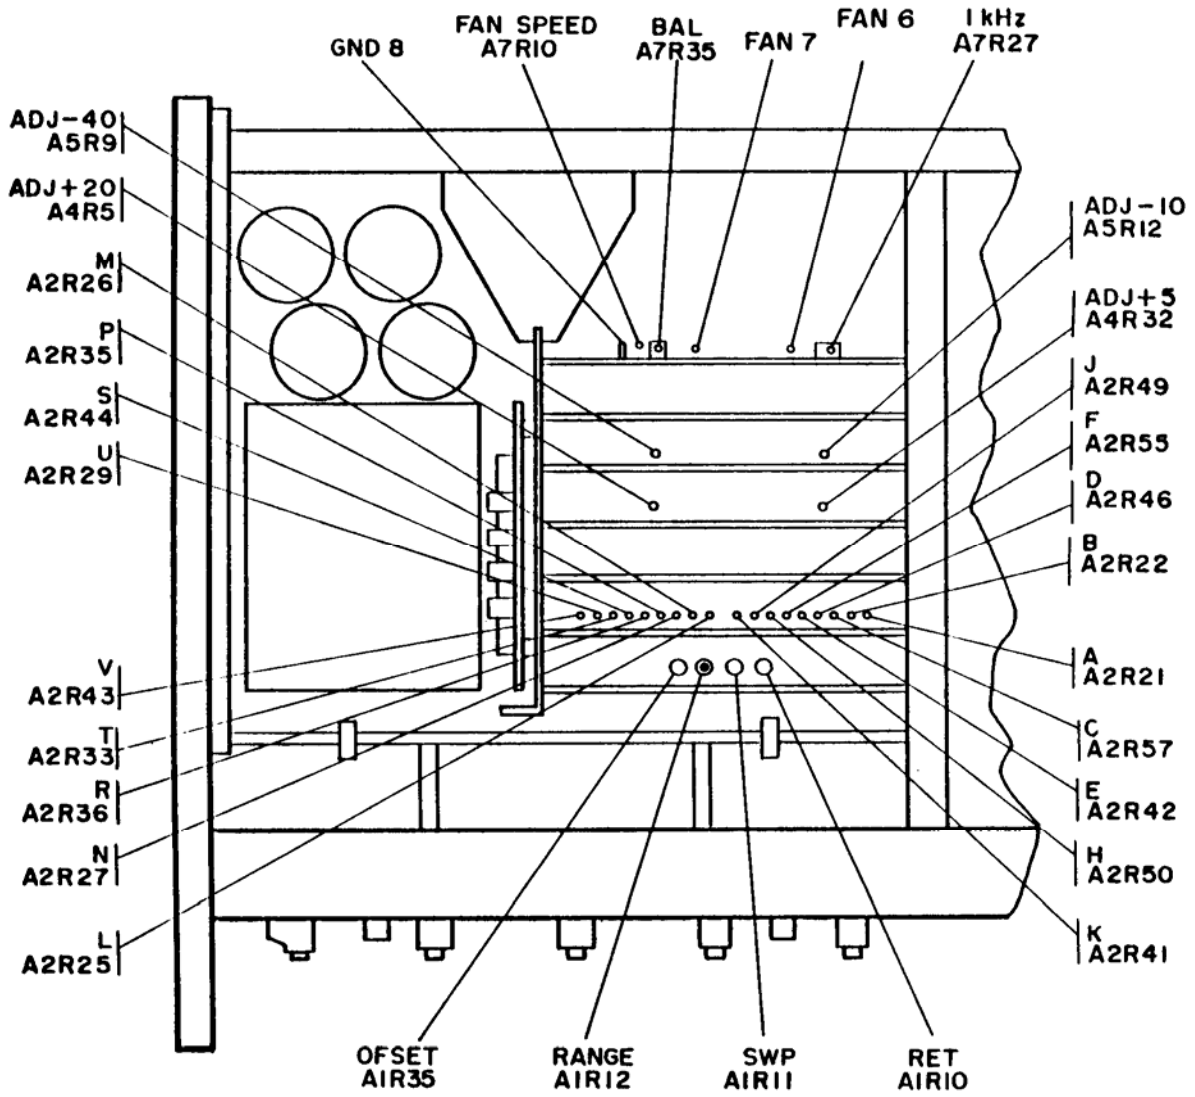
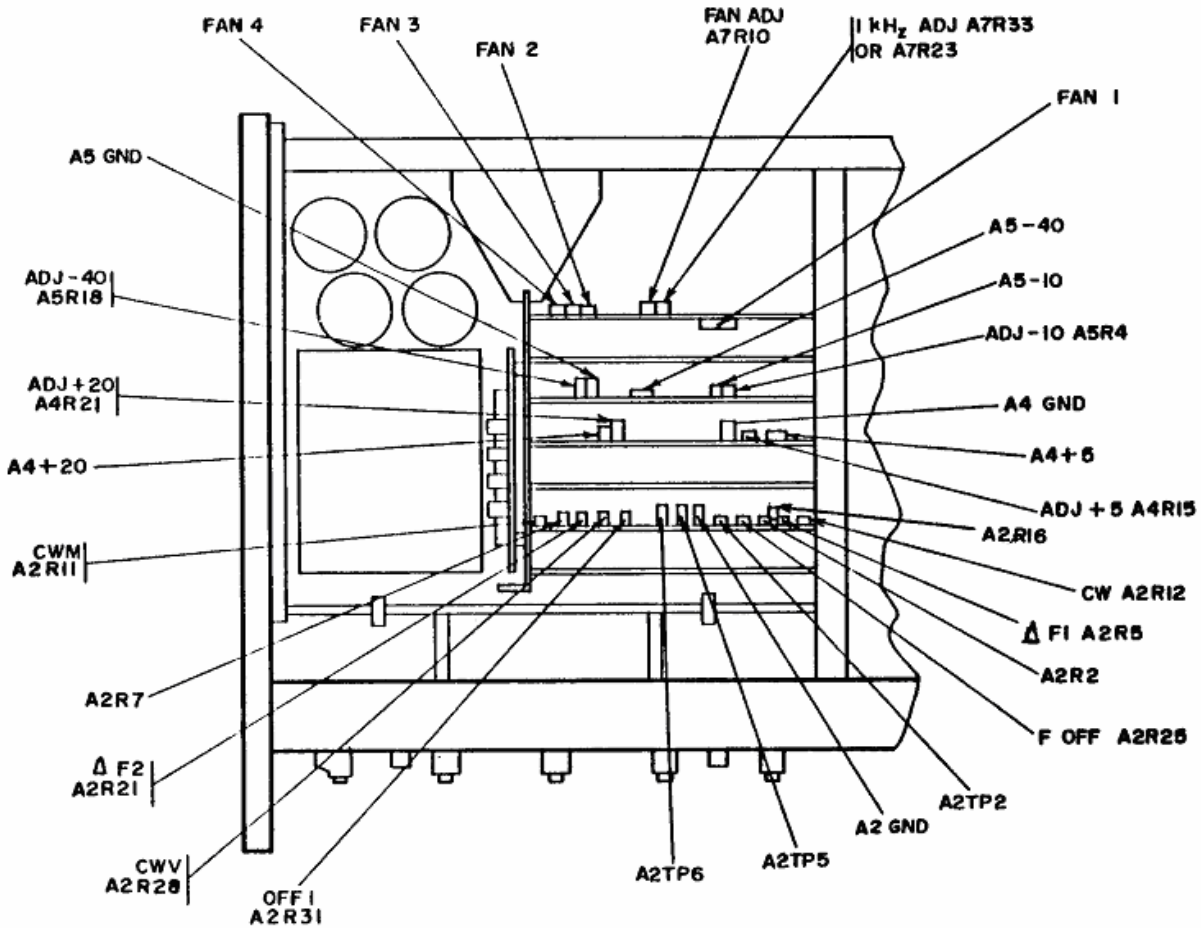
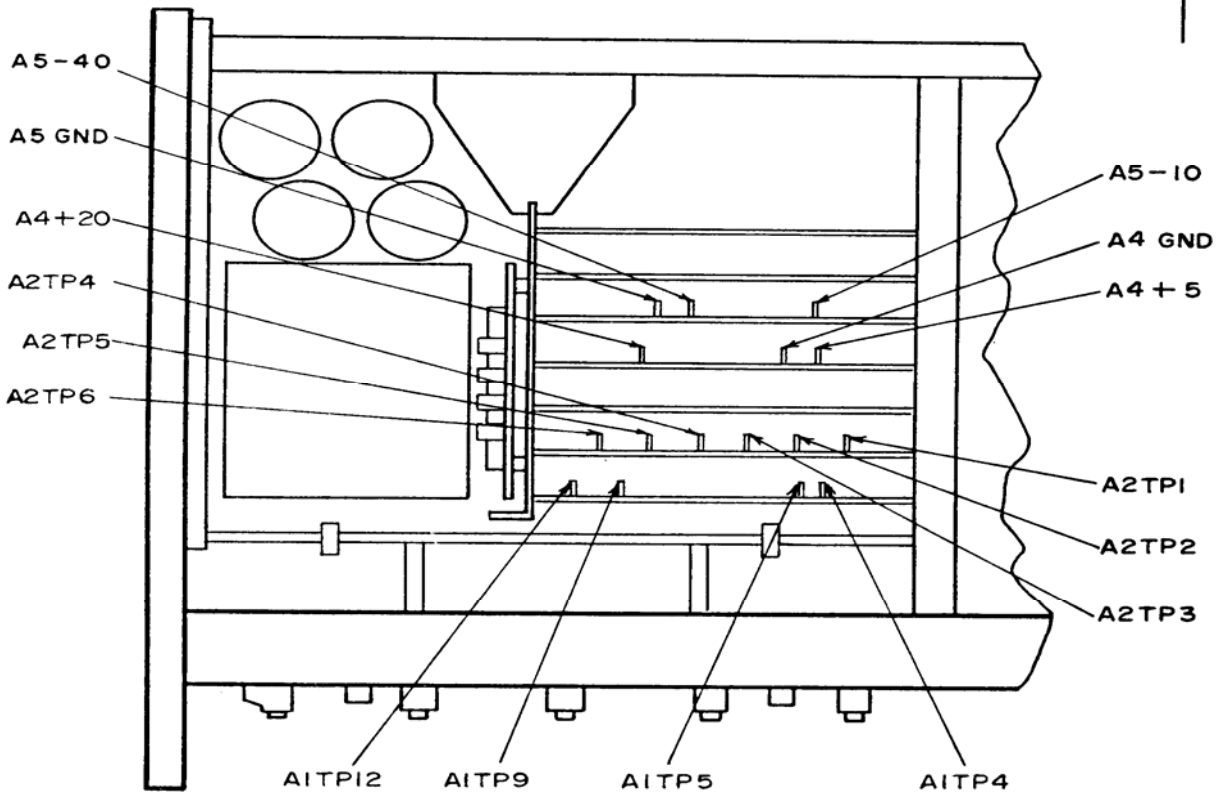

Figure 1. Model 8620C - partial top view.
Figure 2. Model 8620A - partial top view.
Figure 3. Model 8620C - partial top view.
- (3) Set **1 kHz SW WV/OFF (AM-MOD)** switch (rear panel) to **1 kHz SQ WV (1 kHz)**.
- (4) Press **CW** pushbutton and set **RF** switch to **ON**.
- (5) Adjust **POWER LEVEL** control cw to drive microwave frequency counter. If microwave frequency counter does not indicate between 0.95 and 1.05 kHz, perform **b** below.
b. Adjustments. Adjust 1 kHz A7R27 (fig. 1) (A7R23 or A7R33, fig. 2) for 1.00 kHz indication on microwave frequency counter (R).
- (1) Select calibration scale with **BAND** selector.
- (2) Connect multimeter between A2TP3 and A4 GND (fig. 3).
- (1) Adjust A A2R21 (fig. 1) for 0.000 V dc on multimeter (R).
- (2) Adjust B A2R22 (fig. 1) for 10.000 V dc on multimeter (R).
(1) Set **STOP MARKER** (red pointer) to the **0-V** mark on calibration scale.
(2) Connect multimeter to A2TP2 (fig. 3) and ground. If multimeter does not indicate between -0.001 and $+0.001$ V dc, perform **b** (1) below.
(3) Set **STOP MARKER** pointer to the **10-V** mark on calibration scale. If multimeter does not indicate between $+9.995$ and $+10.005$ V dc, perform **b** (2) below.
(4) Set **START MARKER** pointer to the **0-V** mark on calibration scale and connect multimeter to A2TP1 (fig. 3). If multimeter does not indicate between -0.001 and +0.001 V dc, perform **b** (3) below.
(5) Set **START MARKER** pointer to the **10-V** mark on calibration scale. If multimeter does not indicate between +9.995 and +10.005 V dc, perform **b** (4) below.
- (1) Adjust S A2R44 (fig. 1) for 0.000 V dc on multimeter (R).
- (2) Adjust P A2R35 (fig. 1) for 10.000 V dc on multimeter (R).
- (3) Adjust K A2R41 (fig. 1) for 0.000 V dc on multimeter (R).
- (4) Adjust N A2R27 (fig. 1) for 10.000 V dc on multimeter (R).
- (1) Connect multimeter to A2TP5 and A2 GND (fig. 2). Press **CW** pushbutton.
- (2) Set white **CW** pointer to right end of scale (10 V) and make fine adjustments for +10 \pm 0.001 V dc indication on multimeter.
- (3) Move positive lead to A2TP6 (fig. 2) and press **START** pushbutton. If multimeter does not indicate between +9.995 and +10.005 V dc, perform **b** below.
- (4) Move positive lead to A2TP5 (fig. 2).
- (5) Press **CW** pushbutton and adjust **CW** control for 4.000 \pm 0.001 V dc indication on multimeter.
- (6) Move positive lead to A2TP6 and press **START** pushbutton. If multimeter does not indicate between +3.990 and +4.010 V dc, perform **b** (2) below.
- (1) Adjust CWM A2R11 (fig. 2) for 10.000 V dc on multimeter (R).
- (2) Adjust CWM A2R11 (fig. 2) for 4.000 V dc on multimeter and repeat **a** (1) through (6) above (R).
- (1) Set **STOP MARKER** pointer to the **5-V** mark on calibration scale and adjust **MANUAL** control full ccw.
- (2) Set **START MARKER** pointer to the **0-V** mark on calibration scale and press **MARKER SWEEP** pushbutton.
- (3) Move multimeter positive lead to A2TP5 (fig. 3). If multimeter does not indicate between -0.001 and +0.001 V dc, perform **b** (1) below.
- (4) Set **START MARKER** pointer to the **10-V** mark on calibration scale. If multimeter does not indicate between +9.995 and +10.005 V dc, perform **b** (2) below.
(5) Set **STOP MARKER** pointer to the **0-V** mark on calibration scale and turn **MANUAL** control fully cw. If multimeter does not indicate between -0.005 and +0.005 V dc, perform **b** (3) below.